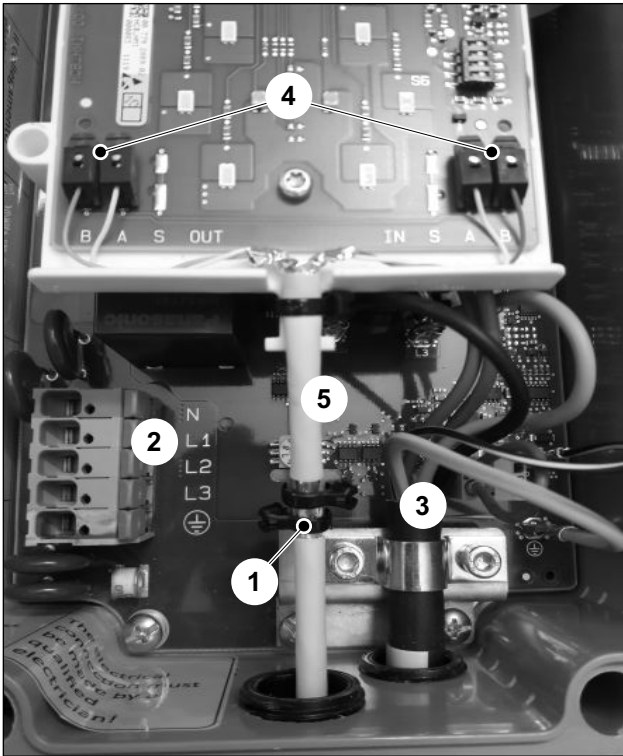

Fig. 12 Line routing for central wiring
The individual wires of the power supply (Fig. 12/2) and of the charging cable (Fig. 12/3) should be laid at the greatest possible distance from the bus lines.
3. Fasten the exposed shield to the shield support with one or two cable ties (Fig. 12/1).
4. Strip two individual wires approx. 8 mm apiece and connect these to the appropriate terminals (Fig. 12/4)
The bus line must be jacketed between the shield support and connection board (Fig. 12/5).